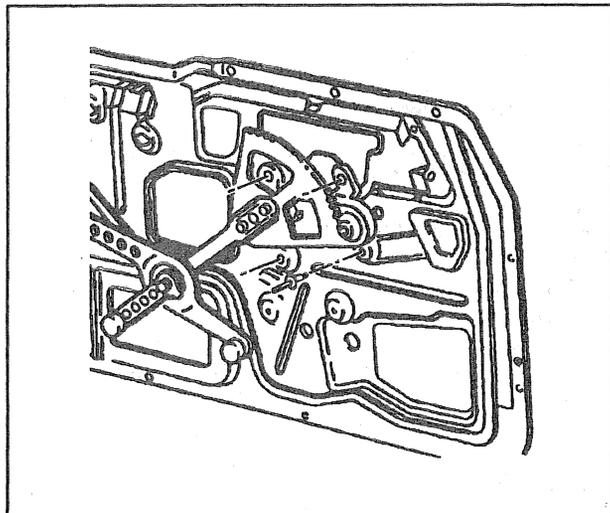

Figure 30—Front Door Window Regulator Assembly
#### ↔ Remove or Disconnect (Figure 30)
- Drill out (2) front and (2) rear rivets.
**↔ Install or Connect (Figure 30)**